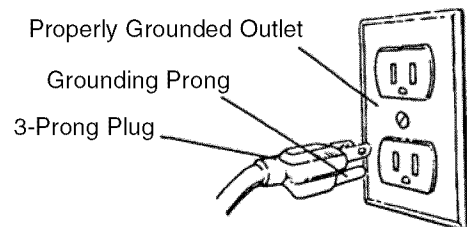

Figure 10 - 3-Prong Receptacle
- This tool is equipped with an approved 3-conductor cord rated at 150V and a 3-prong grounding type plug (see Figure 10) for your protection against shock hazards.
- Grounding plug should be plugged directly into a properly installed and grounded 3-prong grounding-type receptacle, as shown (Figure 10).